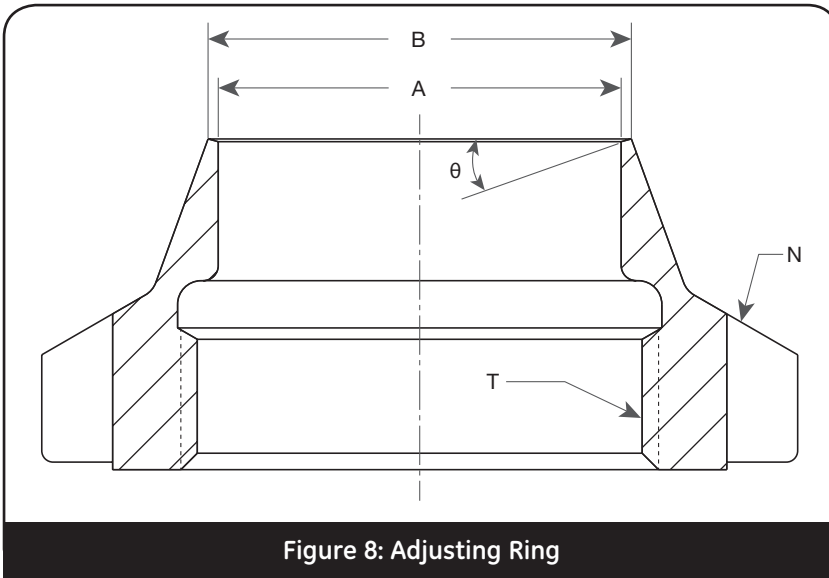

Figure 8: Adjusting Ring
- Inside diameter (A) exceeds maximum dimension or nicked.
- Outside diameter (B) is below minimum dimension or nicked.
- Threads (T) should be replaced if torn, galled or stripped.
- Adjusting ring notches (N) are worn or missing.
- Exceeds dimensions mentioned in Table 4 and Figure 8.